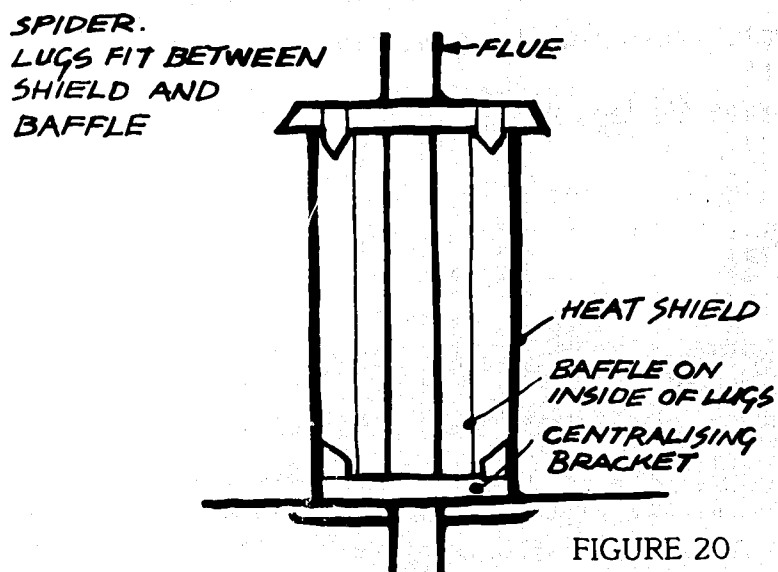

FIGURE 20
2.1.8 Lower the Baffle down through the Heat Shield and centralise it on the lugs on the Centralising Bracket, Figure 20.
2.1.9 The Spider may now be placed over the top of the assembled flue. The lugs on the Spider arms should pass down between the Baffle and the Heat Shield, Figure 20. Clamp the Spider in place.